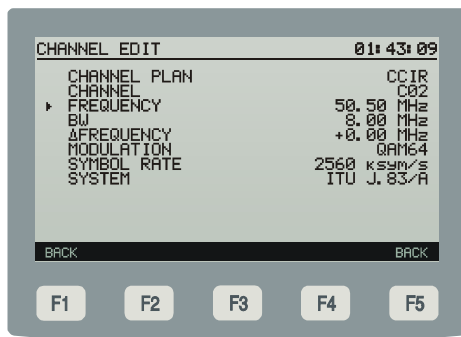

Figure 8.- CHANNEL EDIT menu
- EDIT [F4]:** When selecting this option, you will access to the **CHANNEL EDIT mode** (Figure 8.-) to configure the parameters of the analogical or digital channel.